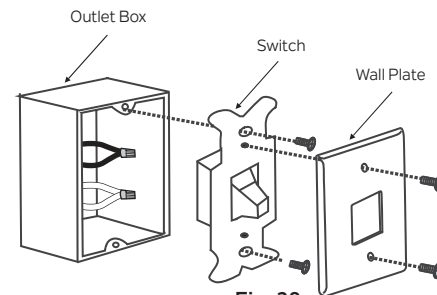

Fig. 28
Step 1. Remove the existing wall plate and the old switch from the wall outlet box. (Fig. 28)
Step 2. Connect the BLACK leads (hot) together with a wire connector (not supplied) and push the connected leads back inside the wall outlet box. (Fig. 28)
Step 3. Connect the WHITE leads (neutral) together with a wire connector (not supplied) and push the connected leads back inside the wall outlet box. (Fig. 28)